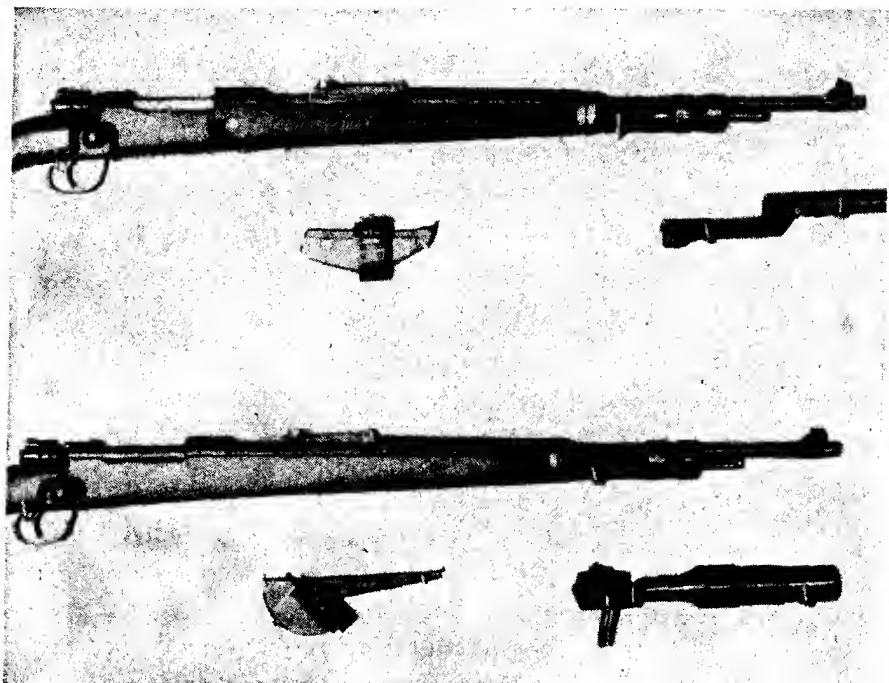

Figure 13.—Mauser Kar. 98K rifle with grenade launchers and sights.
(2) *Grenade launchers and sights*.—Both types are illustrated in figure 13. (See also figs. 14, 16, and 18.) The grenade launcher at the top of figure 13 is used with the spigot-type, hollow-charge rifle grenade (*Schuss-G.P. 40*); this grenade launcher is fitted to the bayonet lug, and the grenade slips over the cylindrical part of the launcher.
The grenade launcher shown in the lower right-hand corner of figure 13 is used to fire the high-explosive rifle grenade (*G. Sprgr.*) and the armor-piercing rifle grenade (*G. Pzgr.*). These two grenades are inserted with a twisting motion into the cup section of the launcher. (See fig. 15.)
There are two types of sights which are used with the grenade launchers. These are illustrated in figure 13. The sight is a simple attachment clamping to the left-hand side of the rifle behind the rear sight. The sight is composed of a sighting device placed on a base which revolves about an axis and is leveled by a small spirit bubble. There are two range scales reading from 0 to 250 meters for low-angle fire and from 250 to 50 meters for high-angle fire. These graduations apply to the high-explosive grenade only. When the armor-piercing grenade is fired, 75 meters on the low-angle scale corresponds to a range of 100 meters, and 50 meters on the high-angle scale corresponds to a range of 65 meters. (On the pistol grenade, see figs. 16, 17, 18 ①, and 20.)